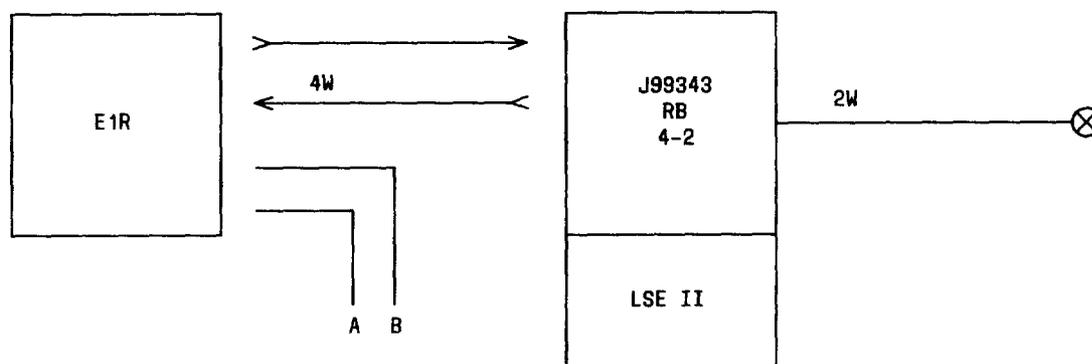

Fig. 12—Typical Application Requiring Ring-Trip boost When Ringing Originates on B-side
4.17 The LSE II (J99343CD, L1, L2 and L3) may be used in place of any of the previous model LSEs in all applications with the exception of those where ring trip boost (B- to A-side signal direction) is required. The arrangement in Fig. 12 has this problem. The dc signaling comes from the E1R unit on the A and B leads, but the standard MFT distributing frame lead plan does not bring the A and B leads to the distributing frame. The BS1 and BS2 leads (B side) are the only external connections to the signaling path. Ringing is assumed to originate on the A side, thus the boost voltage polarity is preset.